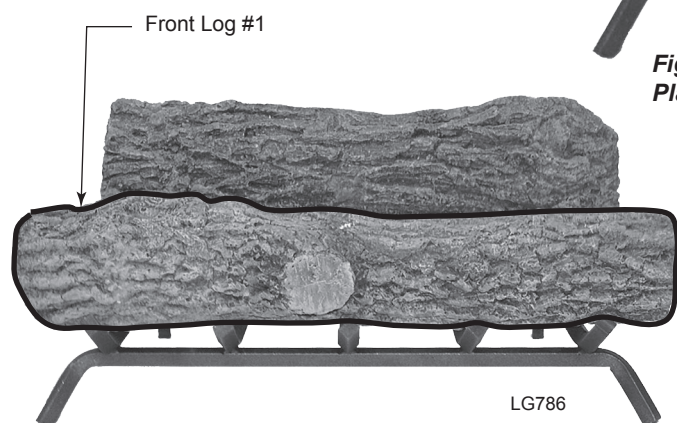

Figure 17 -
2. Place Front Log #1 on front of grate. *Figure 17*